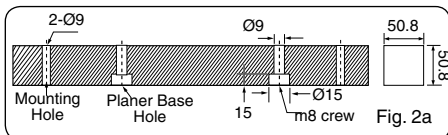

Fig. 2a
## MOUNTING THE PLANER ONTO THE WOOD BASE (Fig. 2a&2b)
- Use four long, furnished screws to mount the planer base onto the wood (Fig. 2a)